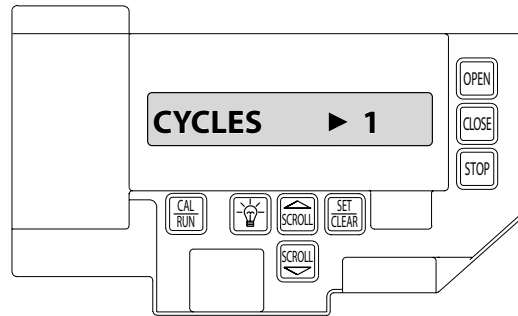

FIG. 7
2. Press SCROLL until display reads CYCLES>1,2,3 etc. where the number shown is the number of open/close cycles the operator has performed. FIG. 7.